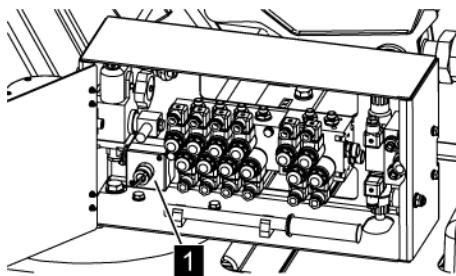

Fig. 186: Key switch
8. → Set the key switch (Fig. 186/1) to the "I" position.